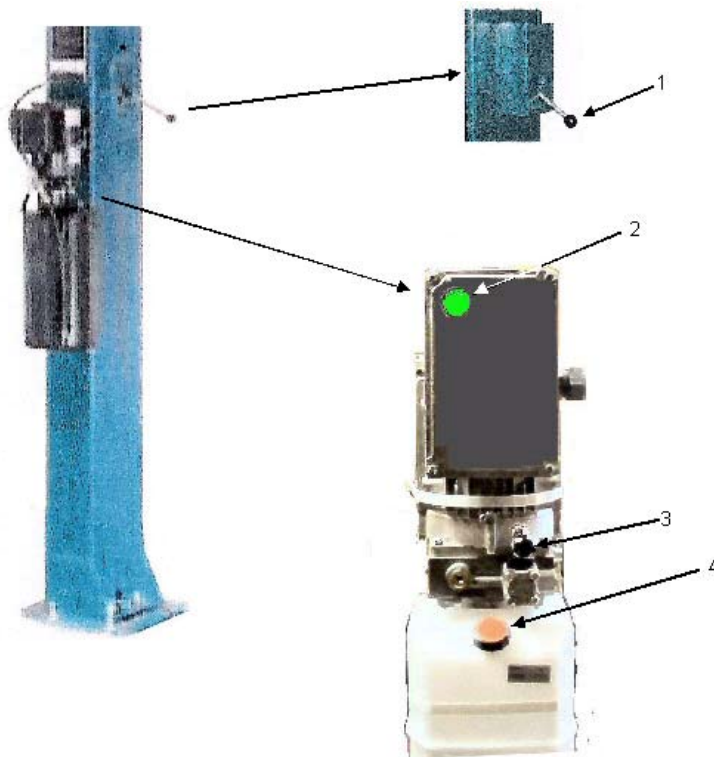

Figure 3-1. Controls
9. Oil Filling & Bleeding: Use Dexron III ATF, or Hydraulic Fluid that meets ISO 32 specifications. Remove fill-breather cap, Fig. 3-1. Pour in (8) quarts of fluid. Start unit, raise lift about 2 ft. Open cylinder bleeders approximately 2 turns.
The controls are located on the column as shown in figure 3-1 in and their use and function given in table 3-1 below.